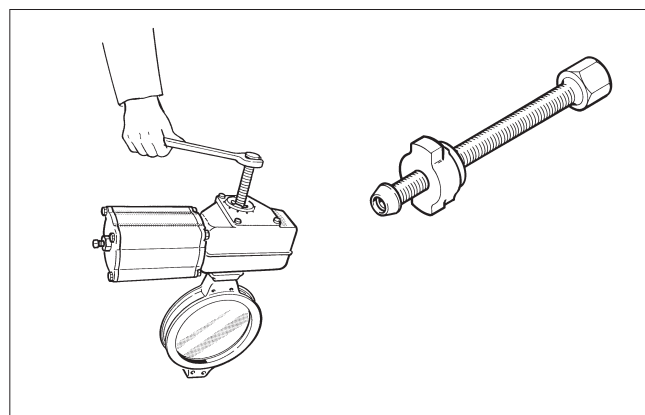

Fig. 18 Detaching B series actuators with an extractor
- Detach the actuator using a suitable extractor. The correct tool can be ordered from the manufacturer (see Fig. 18).